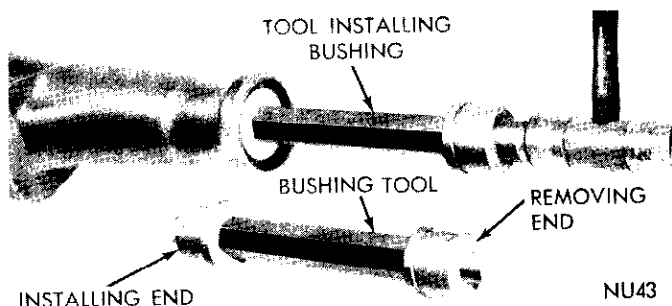

Fig. 44—Replacing Extension Housing Bushing
(2) **A-904:** Press or drive out bushing with Tool C-3996 (Fig. 44).
(3) **A-904:** Slide a new bushing on installing end of Tool C-3996. Align oil hole in bushing with oil slot in the housing, then press or drive bushing into place (Fig. 44).